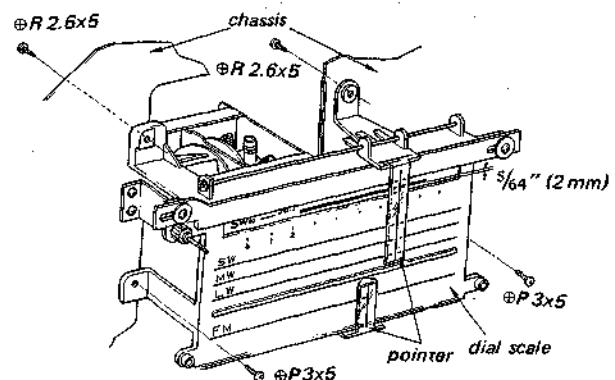

Fig. 2-15
2. Remove the four screws shown in Fig. 2-15.
4. Turn the dial drum so that the drum indicates SW10 and the distance between the dial scale and the line on the drum becomes $5/64$ inches (2 mm) as shown in Fig. 2-15.